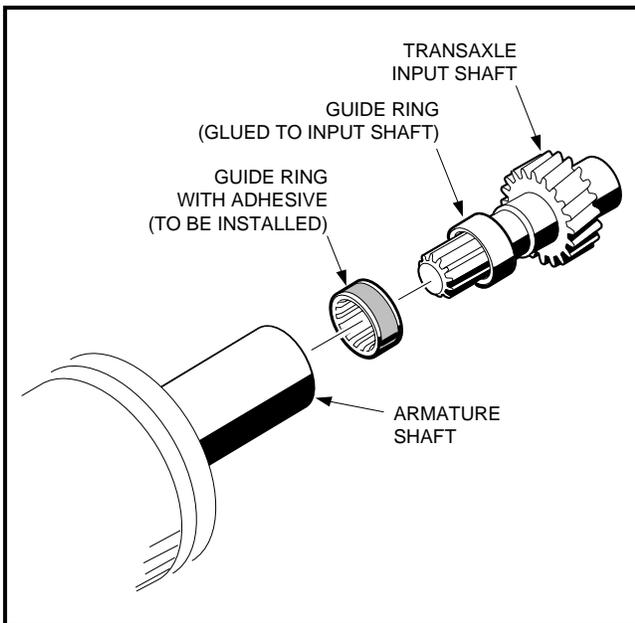

Figure 15-12 Guide Ring
1. Insert the installation and alignment tool (**Figure 15-12, Page 15-8**) into the output end of the motor shaft and into the guide ring, stopping the tool before it reaches the armature splines. Turn the alignment tool in the shaft. If the guide ring moves and the armature does not move, the guide ring must be replaced.
- A GUIDE RING ALIGNMENT AND INSTALLATION TOOL CAN BE FABRICATED USING A TRANSAXLE INPUT SHAFT (CLUB CAR PART NUMBER 1013764) AND AN EXTRA GUIDE RING (CLUB CAR PART NUMBER 101789101). **SEE FIGURE 15-12, PAGE 15-8.**